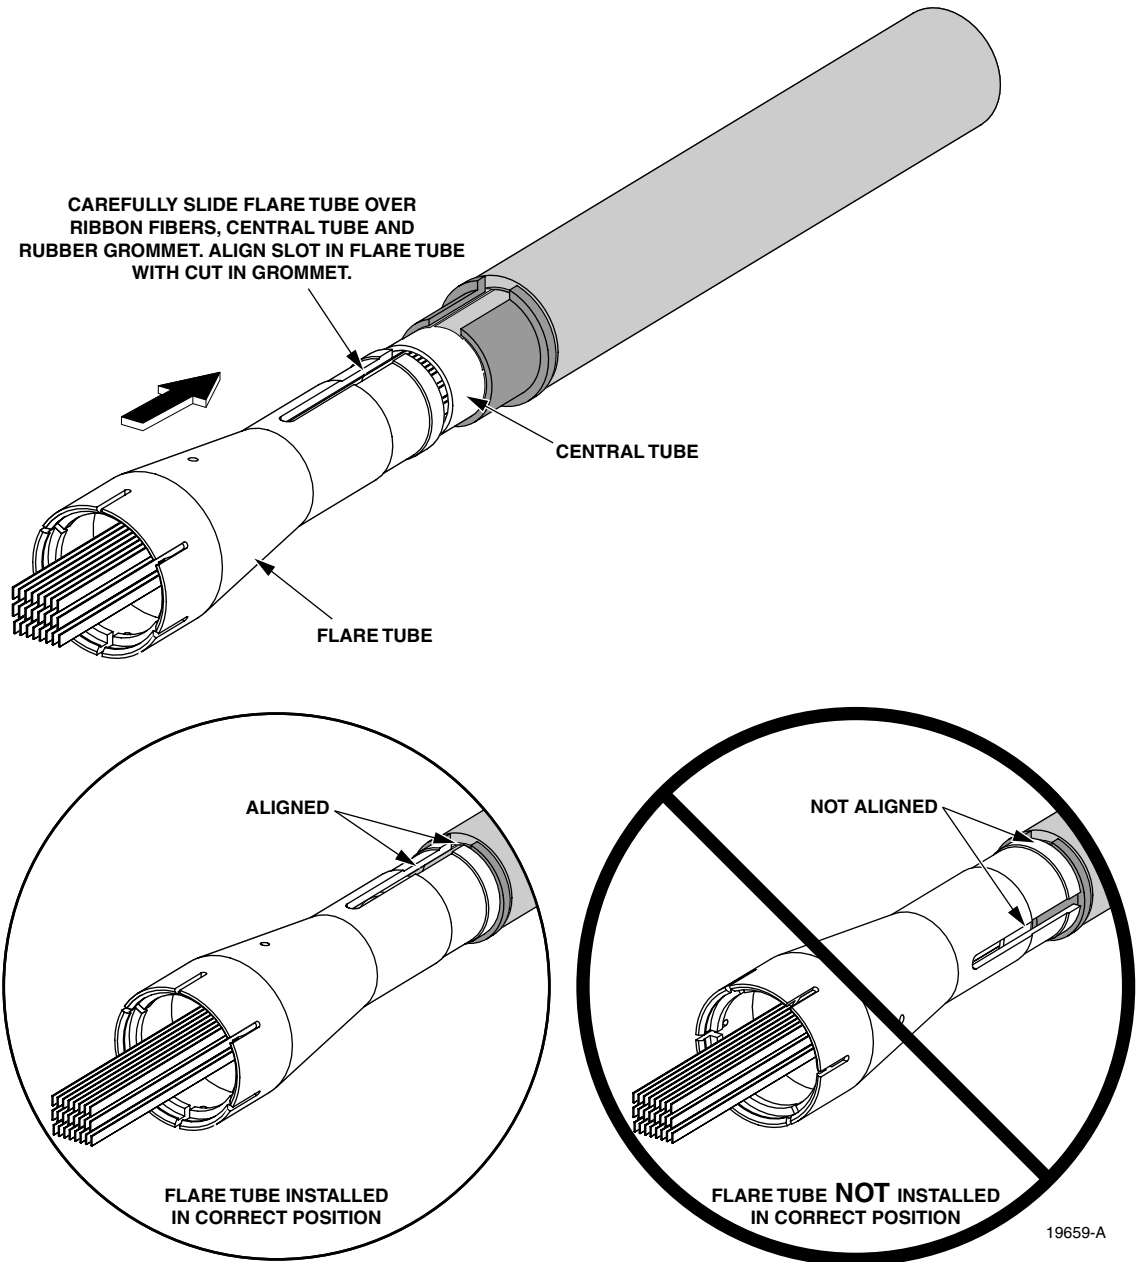

Figure 14. Install Flare Tube
- Carefully insert central tube into flare tube (provided). Align grommet opening with slot in end of flare tube (Figure 14).